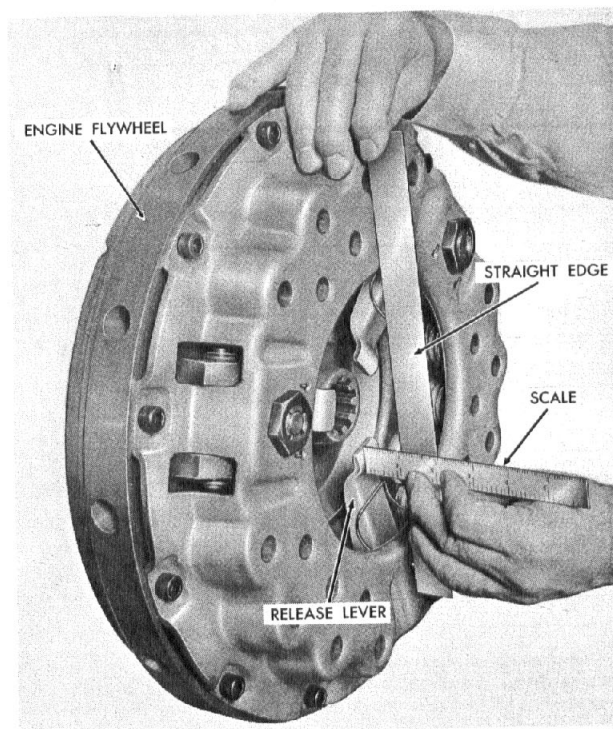

Fig. 28 - Checking Dimension 'A'.
(1) The DPB, DL, DLB, DO, DF two plate assemblies have an intermediate plate with driving lugs which fit into mating slots of the flywheel.
(2) Before installing a two plate assembly, the intermediate plate should be set into the driving slots of the flywheel and clearances checked. A minimum of .006" is recommended to allow for free movement of the intermediate plate.
(3) The two disc assemblies for a two plate clutch may or may not be identical or interchangeable. In most cases they will not be interchangeable and will be marked either flywheel side or pressure plate side. They must be positioned with the side of the disc as marked, next or adjacent to the respective part. In no instance shall the hubs be allowed to approach pilot bearing or come together within 5/32".
(4) When installing two plate clutches, it is essential that a splined shaft or aligning shaft be used with a key to properly align the two disc assemblies. Otherwise the instructions for installing two plate clutches are the same as for single plate assemblies.
(5) To obtain complete disengagement of Type DPB, DL, DLB, DO, DF clutch assemblies, the release levers must be actuated a specified distance from the engaged position. Assuming the release bearing clearance (distance between the clutch release levers and release bearing) to be 1/8" when the clutch is in the engaged position, the release bearing must move forward 1/8" to take up this clearance before it contacts the release levers and then move the normal amount of travel required to disengage the clutch as shown below.
*Note:* If release levers are not in plane, it is an indication that cover is not properly seated in flywheel. Check "A" dimension, Fig. 28 and chart on pages 26-28.
(1) Dimension 'A' is the distance from the top of the clutch flywheel ring (cover) to ends of release levers. See Fig. 28.
(2) Check chart on pages 26-28 for correct 'A' Dimension. Satisfactory operation of the clutch depends greatly upon the accuracy of the lever setting, as this controls the parallel movement of the pressure plate.
(3) A straight edge and scale will provide a means of checking the 'A' Dimension as shown in Fig. 28.
(4) See Chart on page 25 for release lever travel requirements.
(5) New or genuine Lipe-Rollway exchange cover assemblies are pre-adjusted at the factory and the lever settings shall not be altered. If the 'A' dimension does not check out according to the chart on pages 26-28 within 1/32" recheck the complete installation and, if necessary, remove the cover.